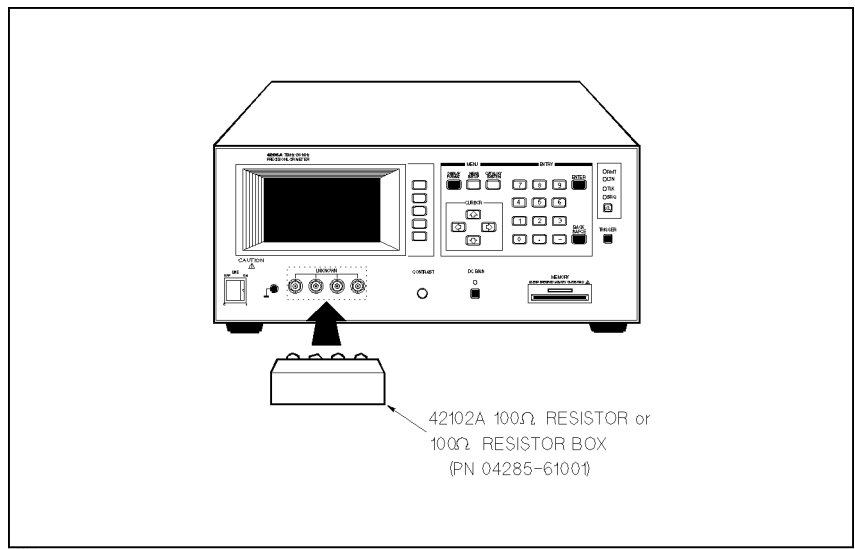

Figure 3-15. 42102A 100Ω Resistor connection
4. Connect the 42102A 100Ω Resistor of the 42100A to the 4285A UNKNOWN terminals as shown in Figure 3-15. If you don't have an 42100A, the furnished 100Ω Resistor Box (Agilent Part Number 04285-61001) can be used as a substitute.